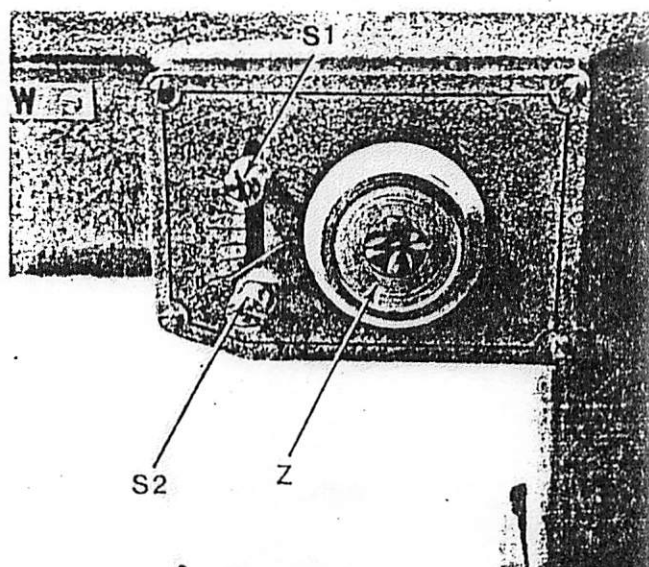

Fig. 12
Ascertain that stops (S1) and (S2) (Fig. 12) are set at both extreme ends of their slot. If not, use screwdriver to loosen them about one turn and then tighten them in their extreme positions. Turning the zigzag regulating knob (Z) clockwise as far as it will go, will cause the machine to sew with a straight stitch. Turning this knob counter-clockwise will produce a zigzag stitch. Same will become wider the more this knob is turned in counter-clockwise direction. The widest zigzag
(Fig. 12)
4. ADJUSTMENT OF UPPER FEED MECHANISM. (Ref. Fig. 12)